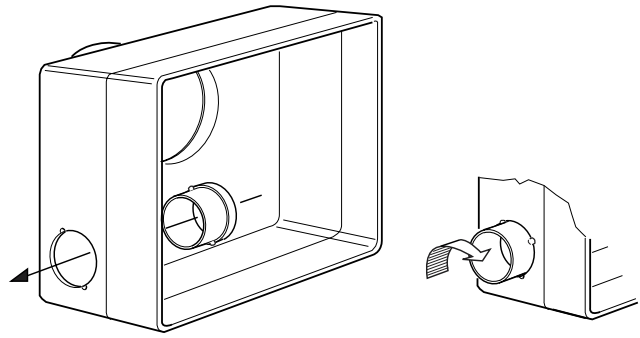

Fig. 5. Fitting a subsidiary spigot (supplied in optional kit)
- c) Unclip and remove the fan module from the case. Knock out a suitable cable entry hole in the rear face of the case. If a second room is to be served remove the appropriate weakened area from the case, and, working from the inside fit the subsidiary inlet spigot by passing it through the case and turning it one quarter of a turn to lock in position, see fig. 5.